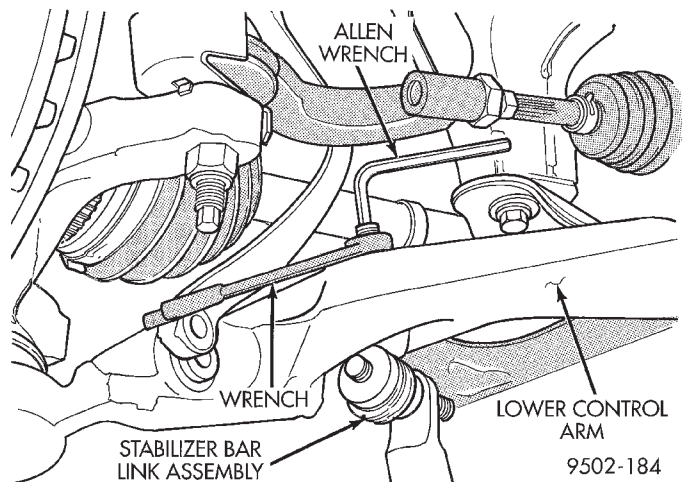

Fig. 56 Removing/Installing Nut From Stud Of Stabilizer Link
(10) Remove nut attaching stabilizer bar link to lower control arm (Fig. 56). When removing nut, hold stud of stabilizer bar link from turning by inserting an allen wrench in the end of the stud (Fig. 56).
NOTE: When tightening and torquing the attaching nut, hold stud of attaching link from turning by holding it with an allen wrench (Fig. 56).